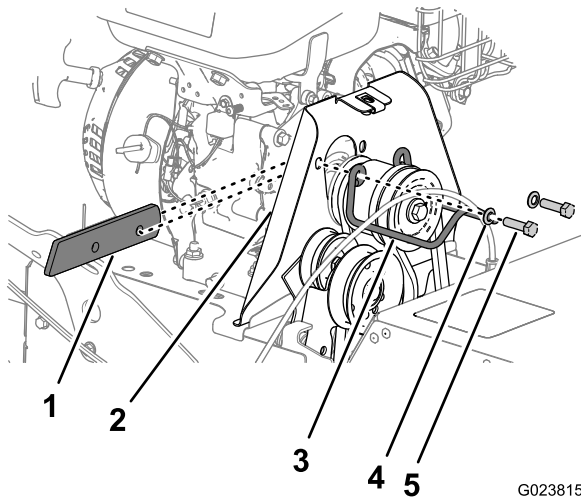

Figure 39
2. Remove the 2 bolts and 2 washers that secure the belt guide to the machine, and remove the belt guide and the spacer (Figure 39).
- Align the spacer between the engine and the pulley shield and align the holes in the spacer, engine, and shield (Figure 39).
- Secure the pulley guide to the machine with the bolts and washers (Figure 39) that you removed in step 2 of Removing the Broom-Drive Belt (page 25).